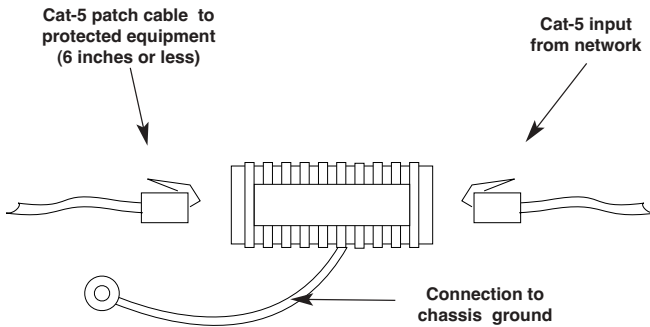

Figure 3. Installation of Model 571/581 Surge Protectors.
2. Install the Model 571/581 between the incoming UTP line and the protected equipment (see Figure 3, below). This installation requires a **straight through** Cat-5 patch cable with modular RJ-45 connectors (supplied with unit).
3. Locate a metal chassis ground on the equipment to be protected. This is often a hex screw on a D-shell or AUI connector. Sometimes a metal back panel is attached by screws, one of which can be used for chassis grounding. If you cannot locate a chassis ground connection on your equipment, contact Patton Technical Support at (301) 975-1007; <http://www.patton.com>; or, support@patton.com.
4. Connect the braided ground strap directly to the chassis ground connection you have located (see Figure 3, above).